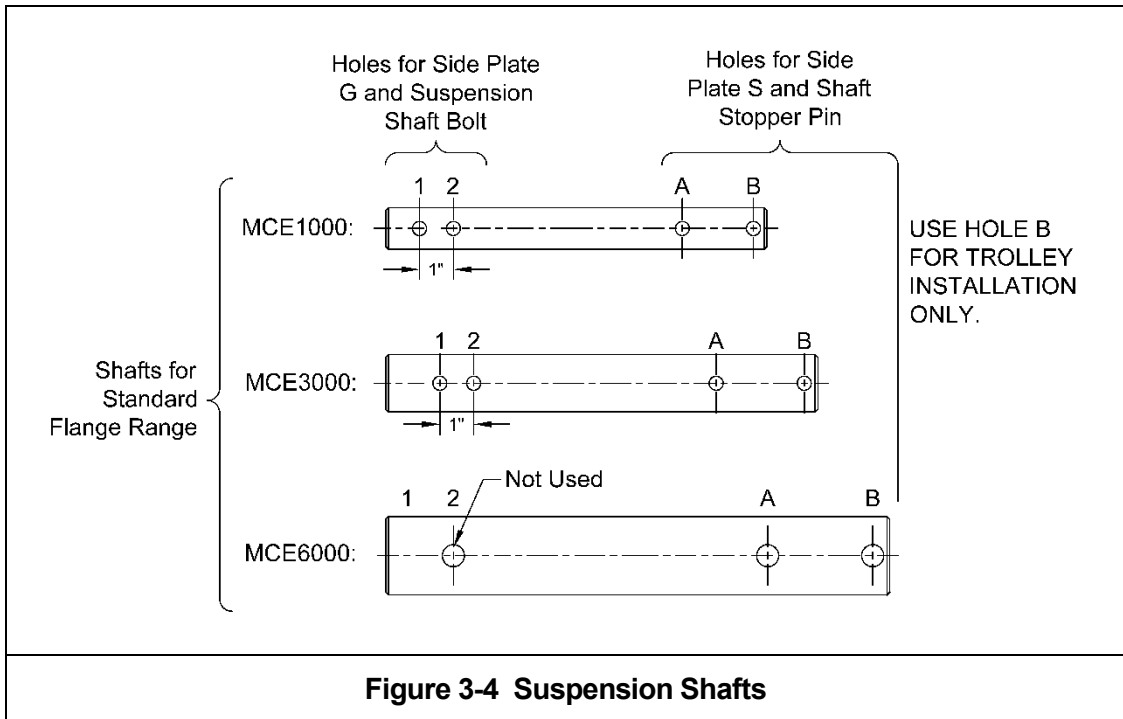

Figure 3-4 Suspension Shafts
- 3) Insert the Suspension Shaft to Side Plate G (motor side) and attach it with the Suspension Shaft Bolt, Slotted Nut and Split Pin (cotter pin). Refer to Figure 3-4 and insure that correct Suspension Shaft holes are used. Securely bend both branches of the Split Pin after insertion.
- 5) Remove the Shaft Stopper Pin from Hole B and re-install in Hole A (see Figure 3-4). Bend the Split Pin securely. Never use trolley with Shaft Stopper Pin in Hole B. Hole B is **ONLY** used when installing the trolley on the beam.